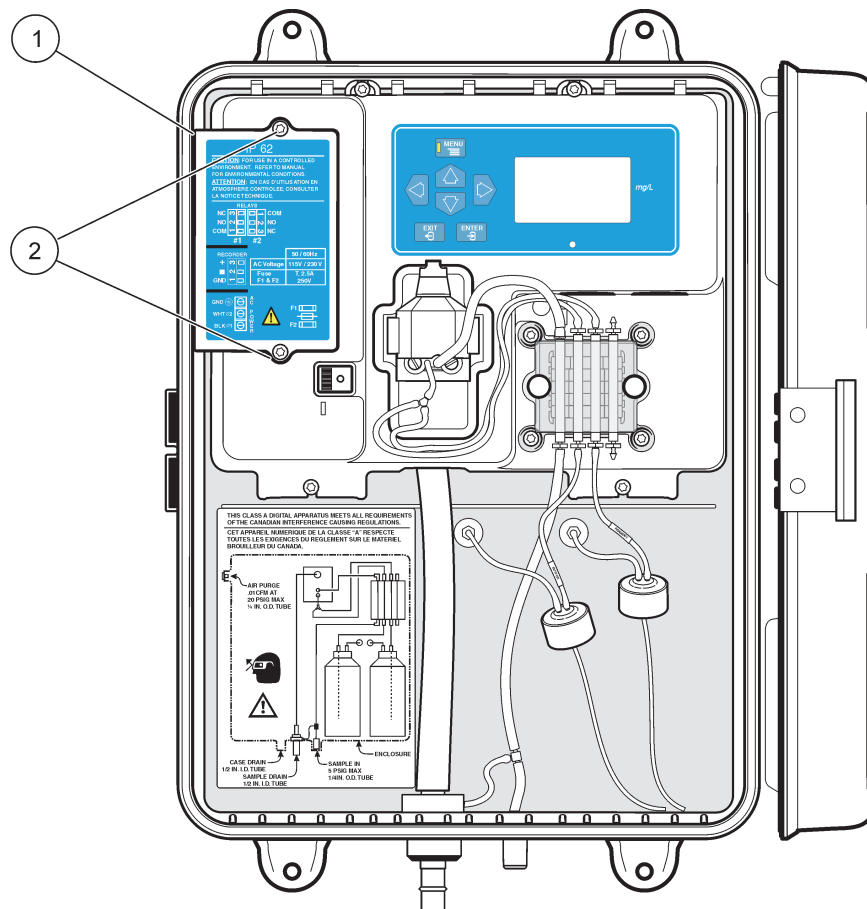
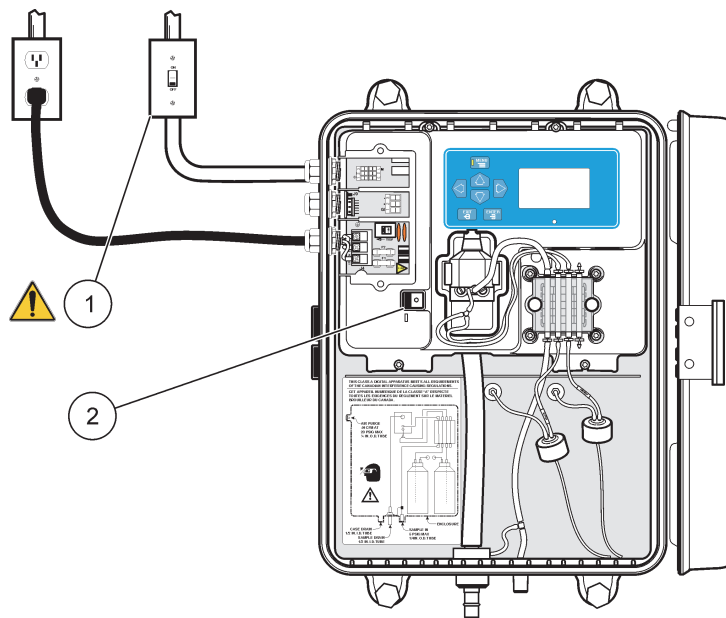

Figure 9 Locating and removing customer access cover
Figure 12 Power connections
Power connections are made at the terminal strip located in the left side of the electrical compartment and are accessible when the customer access cover is opened. Refer to Figure 9 and Figure 12.
2. Remove the Customer Access Cover (refer to Figure 9 in the manual).